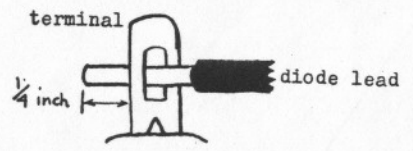

fig. 3a. Insert the diode lead into the terminal.
1. Insert the cathode lead of one diode into terminal lug number 3 of V802 tube socket such that about 1/4 inch (6 mm) of lead protrudes from one side of the lug, as shown in figure 3a.